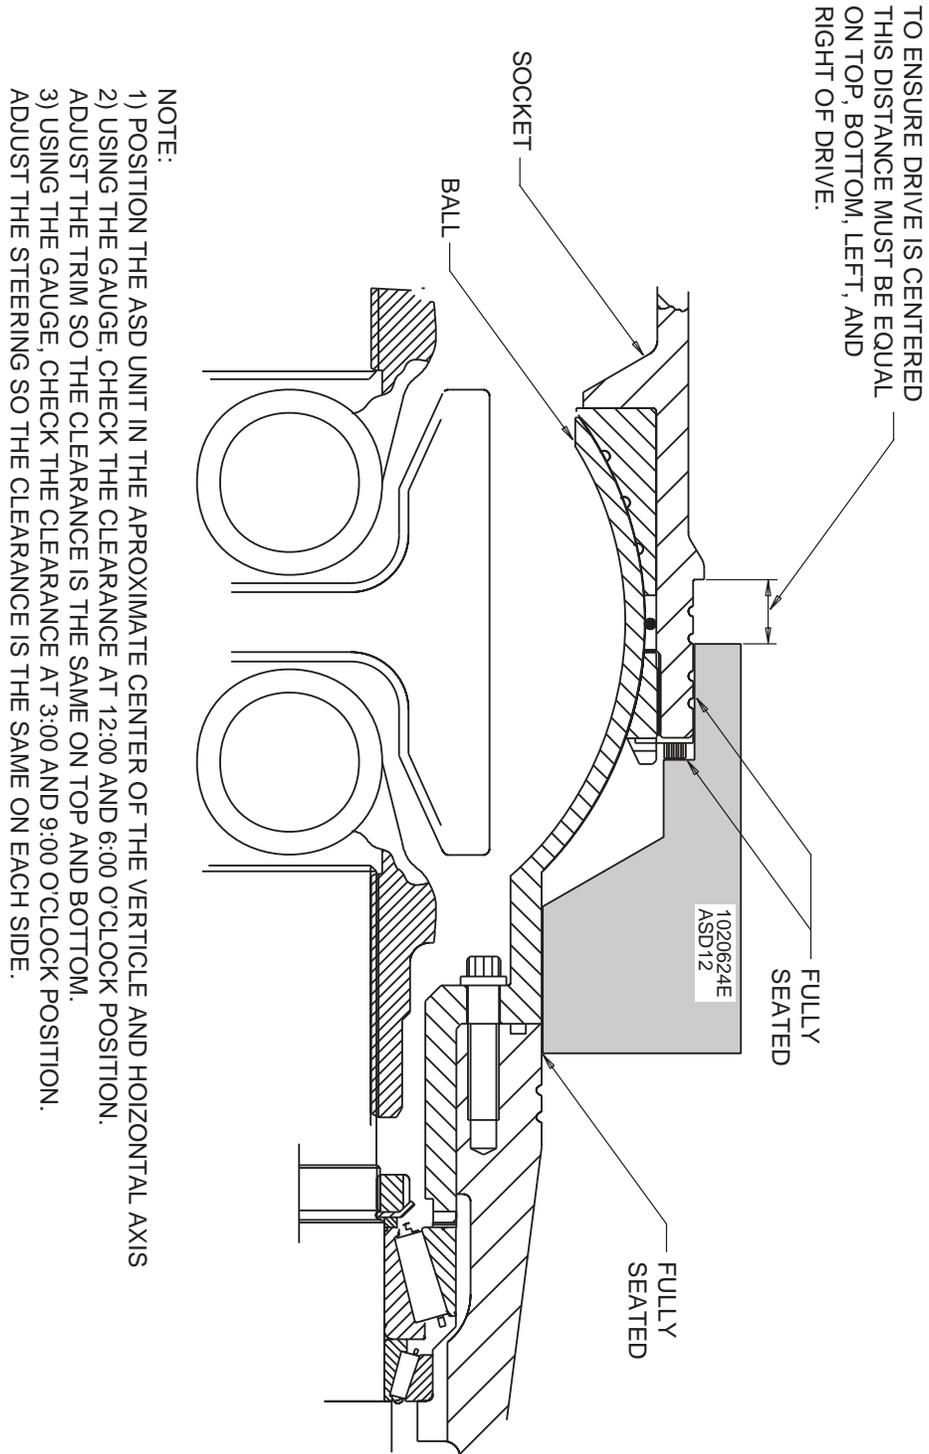

Figure 13. Center the Thrust Ball in the Socket
2. Position the drive in the neutral trim position and parallel to the vessel centerline. See Figure 13. Attach the steering cylinder clevis to the trim yoke pin with the hardware supplied. See Figure 16. Torque nut to 57 N m (40 ft.-lbs).